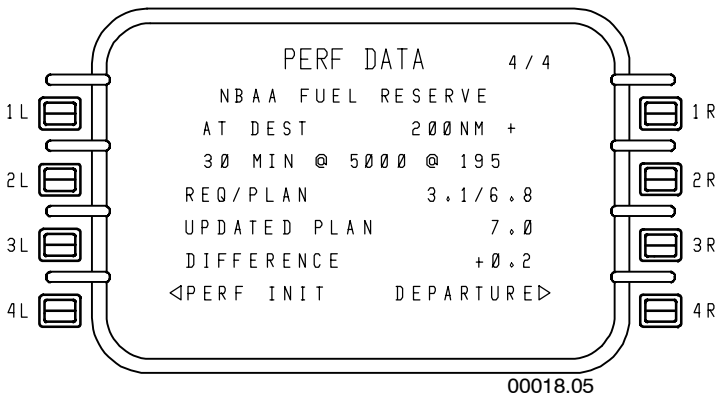

Figure 5-24
- **PERF DATA 4/4** – Figure 5-24 displays information about fuel reserve requirements. No entries are permitted.
- **1L and 1R** – The method of fuel reserve calculation, as chosen on PERFORMANCE INIT page 3/5, is displayed here. The example in Figure 5-24 shows the default mode of NBAA reserves. If the fuel reserve mode is pounds or minutes, the fuel reserve at the destination is displayed when there is no alternate defined. With an alternate flight plan, these two fuel reserve modes show the fuel reserve at the alternate destination.